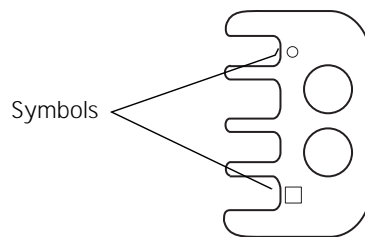

Figure 7 Locking Bar
5. Remove the support leg from the three sumps and unscrew the top sump as shown to access the prefilter element. The support leg functions as a wrench to loosen the sump, Figure 7.